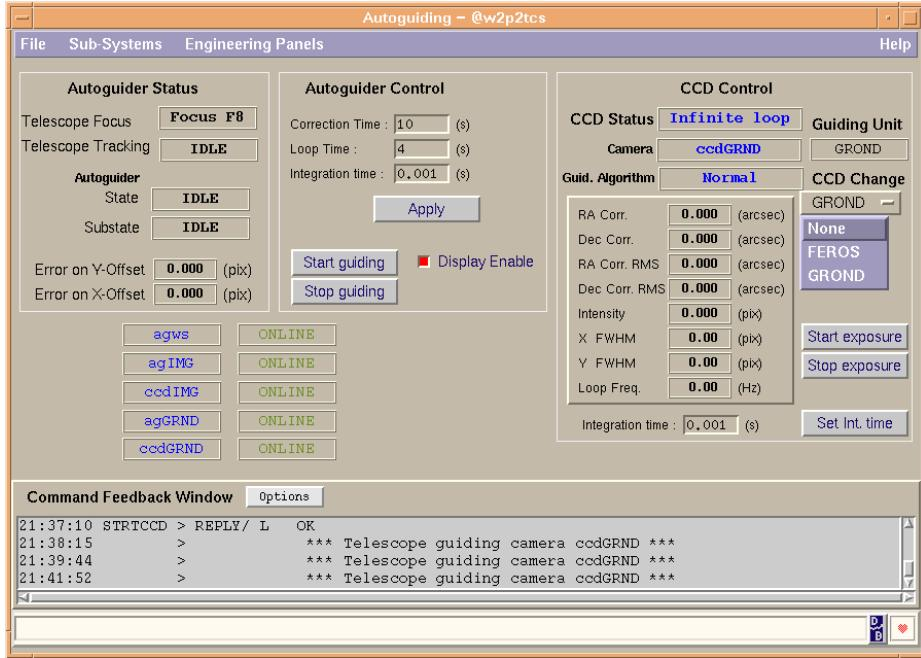

Figure 2.5: Switching between **GROND** and **FEROS** guide camera.
- a. select GROND below CCD change (see Fig. 2.5)
- a. select FEROS below CCD change (see Fig. 2.5)
Check that the **GROND** and **FEROS** guide cameras work by switching between them on the **AG** window (see Fig. 2.5). The switching should set the camera in CCD status **Infinite loop**. It may be necessary to click on **Start exposure** after switching to obtain this status. If status is **Fail**, the camera must be restarted (see Sect. 9.2).